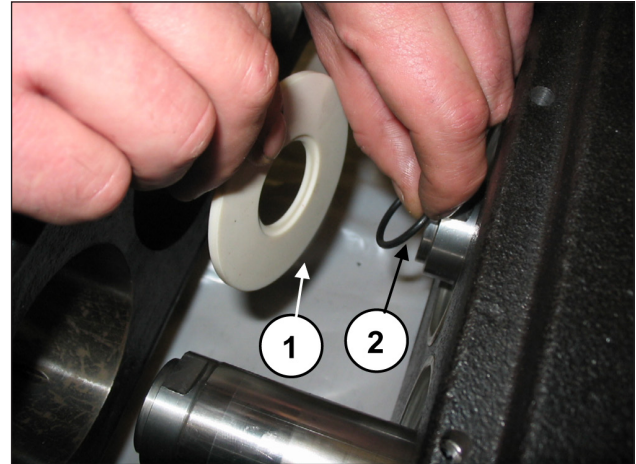

Fig. 2
Remove the three spray-guards together with the O-rings (pos. ① and ②, Fig. 2).